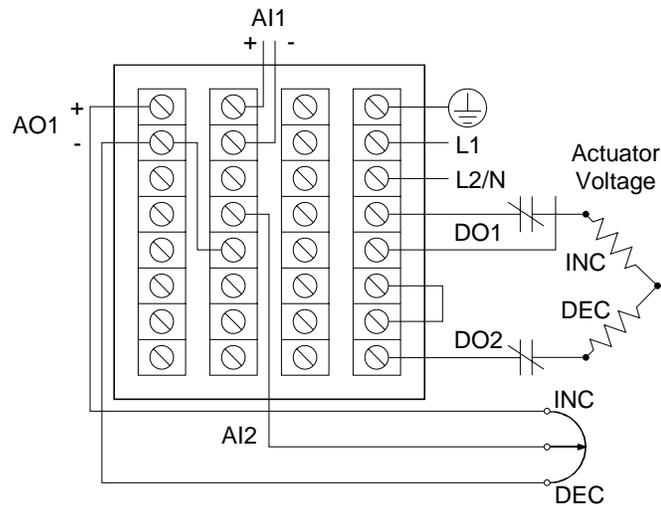

Figure 10-2 Wiring for Factory Configuration 11 (Shown in Figure 10-1)
Figure 10-2 shows the wiring necessary to implement our example, factory configuration 11 (111).